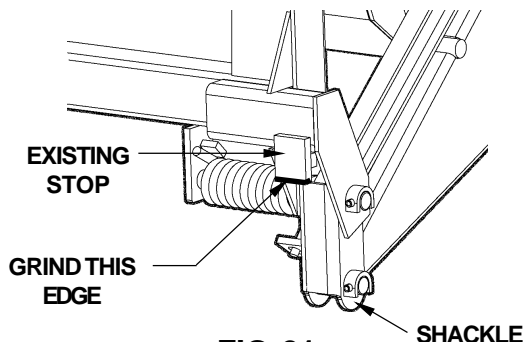

FIG. 21
3. If the outboard edge of the flipover will not reach level ground, grind off metal in 1/16" increments from the existing stop on the Platform (roadside and curbside) as shown in **FIG. 21**. Each 1/16" ground off the existing shims lowers the outboard edge of the flipover as shown in **TABLE 2**.